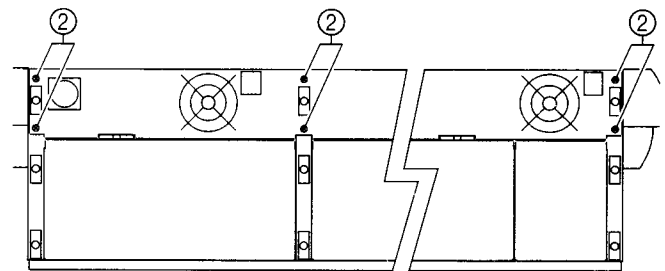

Fig.2
2. Loosen the screws (2) on the rear of the meter bridge. (Fig.2)